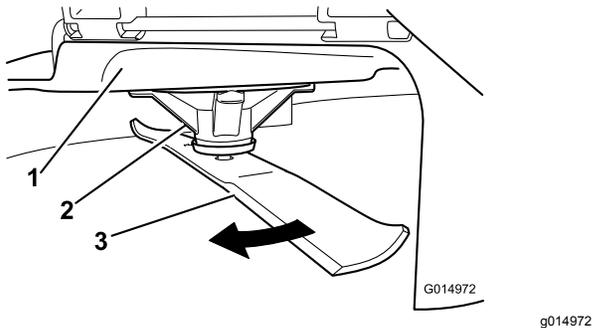

Figure 102
2. While wearing thickly padded gloves, or other adequate hand protection, slowly rotate the blade into a position that allows you to measure the distance between the cutting edge and the level surface the machine is on (Figure 102).